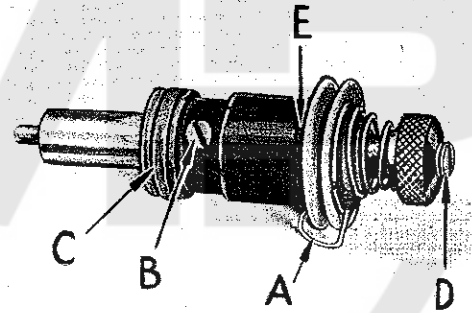
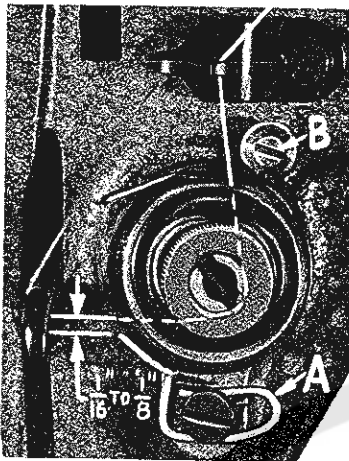
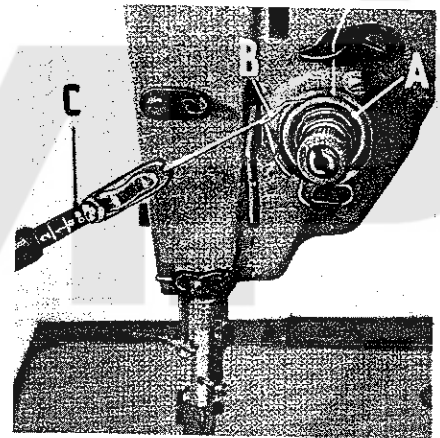

Fig. 17
Fig. 18
Fig. 19
Test check spring tension (A, Fig. 17). There should be enough tension to assure a good returning snap when spring is depressed and released. Should it require adjusting, loosen set screw in the head located under arm and to the right of tension assembly, and remove tension assembly. Partially loosen tension post set screw (B) in tension post socket (C). Turn the tension post (D) counterclockwise until the check spring moves away from the upper stop (E) and has no tension on it. Turn the tension post (D) in a clockwise direction until the spring again touches the upper stop (E). Then, proceed further in the same direction until the desired tension is obtained. When correctly set, the tension post set screw (B) should be drawn up snugly, yet not forcefully. Further adjustment of the check spring tension can be made by inserting a screwdriver into the slotted end of the tension post (D) and turning in the required direction.
The in and out position of the tension assembly is correct when the tension discs are in line with the check spring eyelet (A, Fig. 18). Set the stop screw (B, Fig. 18), so that when the flange of the tension assembly rests against it, this position is maintained. Tighten the tension assembly set screw.
Check the adjustment of tension assembly (A, Fig. 19). Check spring tension. There should be enough tension to insure a good returning snap when spring (B, Fig. 19) is depressed and released. The check spring tension is adjusted from about 1 to 1 1/4 ounces when measured with a postal scale (C, Fig. 19). This is measured when the check spring is 1/32 to 1/16 inch from its stop. The tension post set screw should be drawn up snugly but not forcefully tightened (B, Fig. 17). The tension release pin should move freely in the tension post (D, Fig. 17). The check spring eyelet (A, Fig. 18), located just below the tension discs, should be set for correct height as follows:
With a thread running from the tension post to the thread wire in a straight line, the check spring eyelet should be set 1/16 to 1/8 inch below the thread line (Fig. 18). Be sure the eyelet is set close to the tension discs so that the check spring will pass freely over it without obstruction. After making this setting, proceed to thread machine as per threading diagram (Fig. 2).